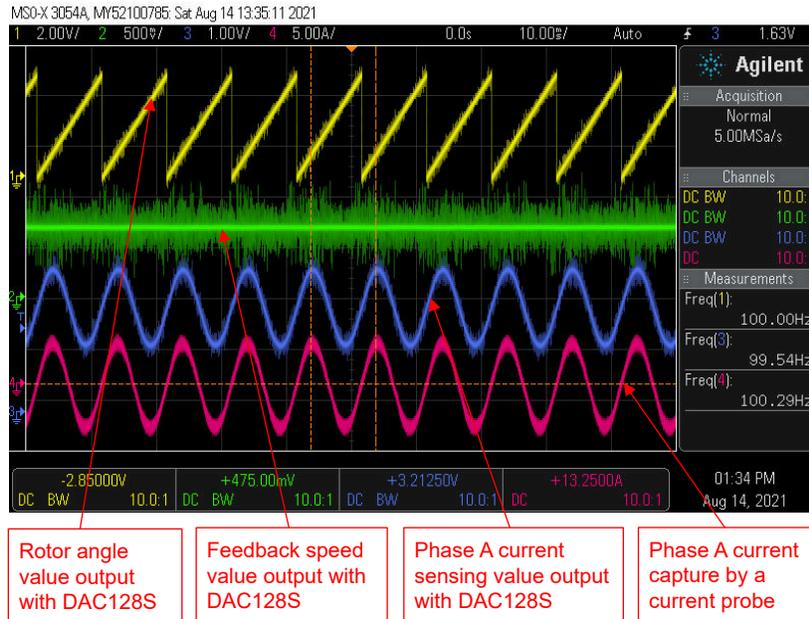

Figure 3-47. Build Level 4: Rotor Angle with FAST, Phase Current Waveforms at Forward Move
- d. Use PWM DAC or DAC128S module to display the monitoring variables as described in Section 3.4.2 or Section 3.4.3. The motor angle and current waveforms are shown in Figure 3-47.
Use DAC128S085EVM with an oscilloscope to monitor rotor angle of the motor from the FAST estimator, feedback speed of the motor, and a phase current of the motor as shown in Figure 3-47 when the motor is running at forward rotation by setting `motorVars_M1.speedRef_Hz` to a positive reference value.